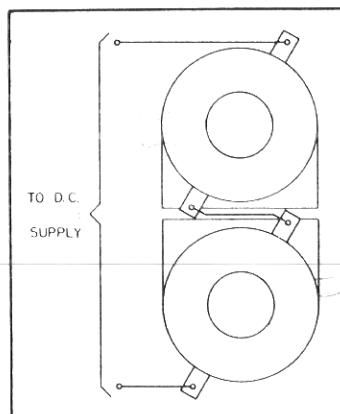

Fig. 4 Coil Connection.
When installing new coils, check the identification labels to make sure that the coil style number and voltage rating are correct for the application. Connect them in series as shown in Fig. 4.
7. Connect the coils in series as shown in Fig. 4.